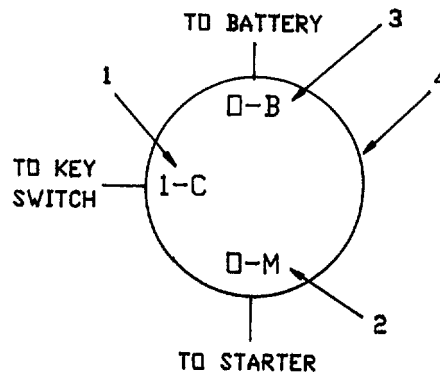

Figure 5-2. Relay-Solenoid Diagram.
- (7) Clean any carbon powder or rust that has been deposited in electrical coil by blowing out with dry compressed air.
- (8) Shunt coil continuity test: check continuity between C terminal (1, Figure 5-2) and relay-solenoid (4) case. If no continuity is detected, replace relay-solenoid (4) whose shunt coil is open. Resistance of 1.13 Ω (ohms) should be detected.
- (9) Series coil continuity test: check continuity between C terminal (1) and M terminal (2) of relay-solenoid (4) case to insure continuity is detected. Series coil resistance is 0.33 Ω (ohms).
- (10) Relay-solenoid contact test: Push plunger with your finger and check continuity between the M (2) and B (3) terminals. If no continuity, relay-solenoid (4) is faulty and must be replaced.
- (1) No-load test: Fix starter motor on test bench. Connect wiring Figure 5-2) to the motor. Close switch. Current flows through motor, which will rotate at no-load. Measure working current, voltage, and motor revolutions.